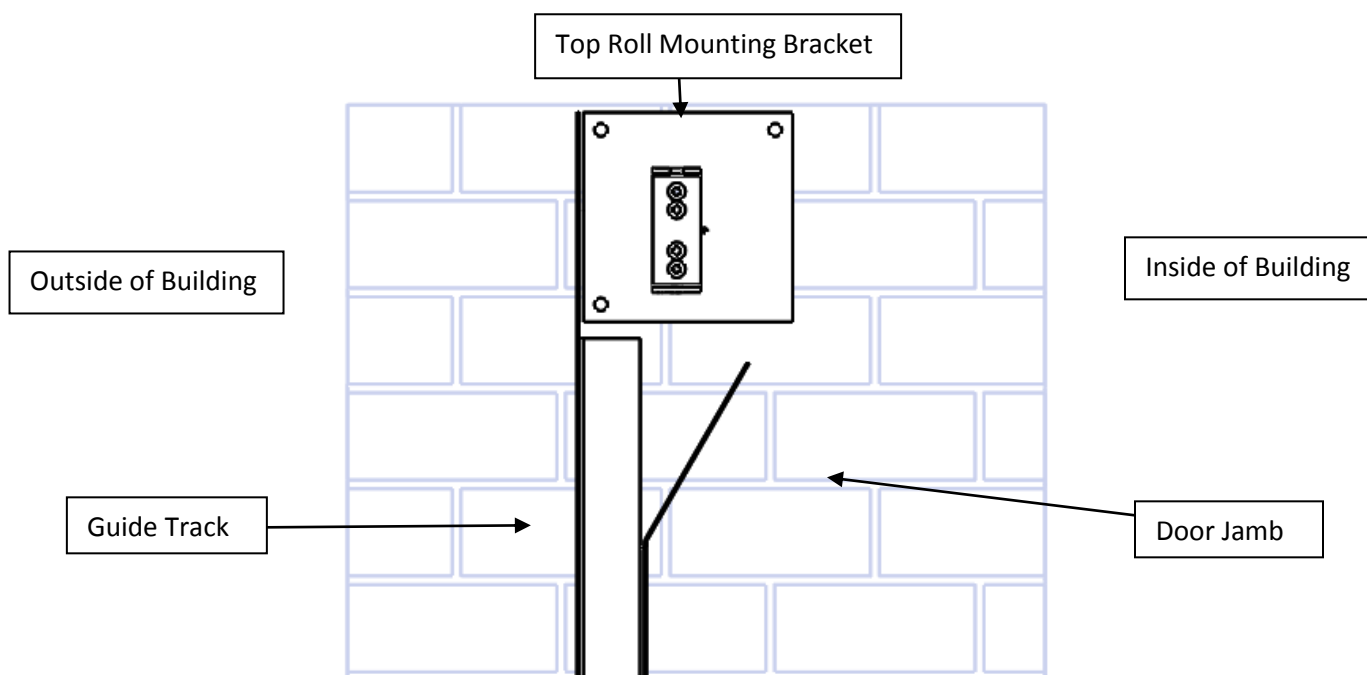

Figure 3
5. Position the right side guide track on the door jamb so the guide track is up against the back of the mounted bracket (see figure 3). Make sure the track is plumb (use the extra washers provided as shims behind the mounting points as needed). Drill pilot holes into the door jamb through the pre-punched holes in the guide tracks with a #22 bit (or 5/32"). Use the #10 x 3/4" long tapping screws provided to fasten the tracks to the jamb. It is important to use the flat washers provided behind the heads of all mounting screws in order to hold the plastic guide material in place. Follow the same procedure for mounting the left hand side guide track.